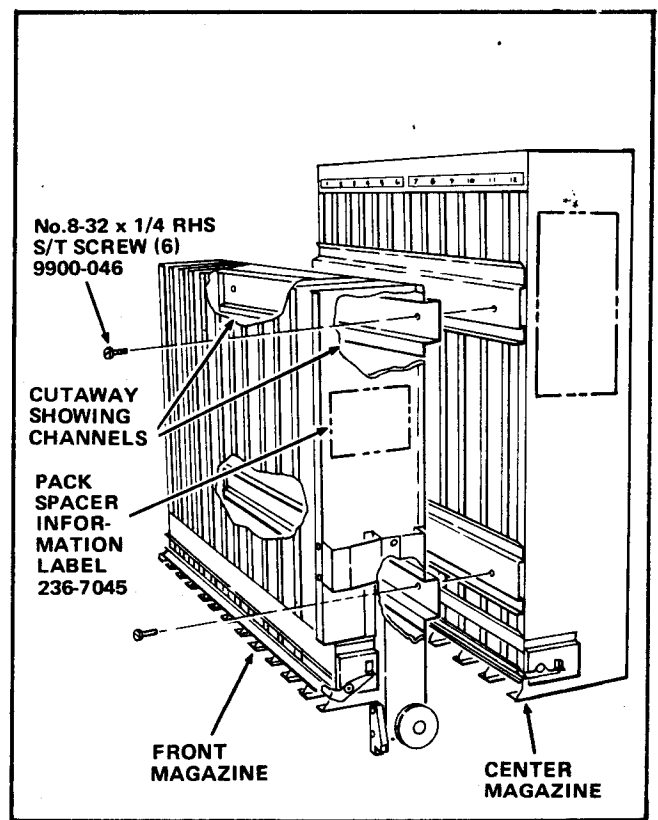

FIGURE 3
6. Remove six Screws attaching the Center Magazine to the Front Magazine and remove the Center Magazine from the Merchandiser. See Figure 3.
2. Install the replacement Center Magazine Assembly, Part Number 236-7121, included in the Kit, in the Merchandiser by attaching the Center Magazine to the Front Magazine with six No.8-32 x 1/4 Round Head Self Tapping Screws, Part Number 9900-046, included in the Kit. See Figure 3.
12. Peel the backing off the Pack Spacer Information Label, Part Number 236-7045, included in the Kit, and attach it to the end of the Front Magazine. See Figure 3.